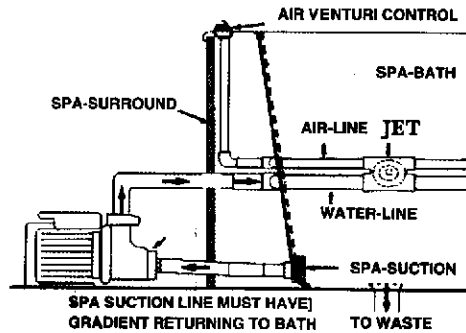

Fig. 1
1. Pump starts but no water from spa jets.	Pump not installed at the correct level (refer Fig.1). Check with installer. Ensure the bath is filled with water to manufacturer's recommendations, approximately 50mm above spa jets. Open air venturi control on bath edge to release any trapped air from pipework. Start and stop the pump for 10 seconds do this 5 times to purge the air. If pump does not start pumping water call a technician.
The spa bath pump must be mounted below the normal operating spa bath level but above the spa bath to ensure correct pump priming and pump/pipe drainage (see Fig. 1) All water must drain back into the spa when emptied. This is in accordance with local Health Department Regulations.
Ensure pipes rise evenly from the spa bath to the spa bath pump to avoid airlocks (otherwise the spa pump will not prime, refer Fig. 1). All pipe connections must be watertight.